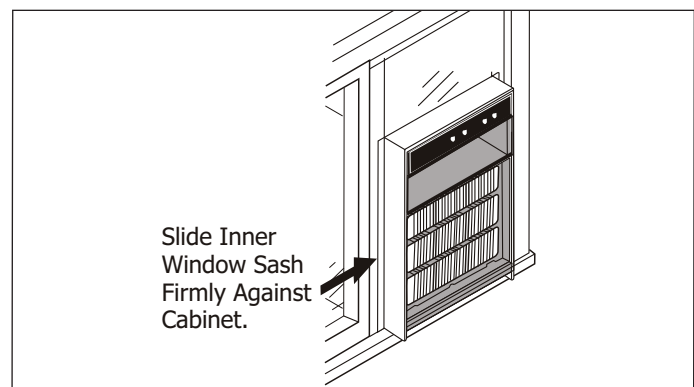

Figure 2-46.
16. Slide inner window sash firmly against side of the cabinet. Make sure not to peel the seal strips from the window track and cabinet side channels. If the panel frame does not fit snugly to the inner window sash, secure the panel frame to the sash with #8 x 3/4 inch screws, or #8-32 x 3/4 inch self-threading screws. Use the partially plugged holes in the panel frame. Drill 1/8-inch pilot holes for the screws. (See Figure 2-46)